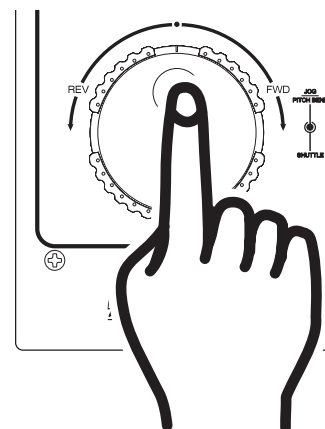

Figure 9
This feature allows you to scroll through a track to set a cue, starting sample, or loop point. To use the scroll function you must first be in Pause Mode or Cue Mode. Once you are in Pause or Cue mode, use your finger tip to turn the *JOG WHEEL (19)* to scroll through the track (figure 9). Turning the wheel in a clockwise direction will advance the frame search and turning the wheel in a counter-clockwise direction rewinds the frame search. When you use the *JOG WHEEL (19)* the monitor (headphone level) function allows you to hear what you are scrolling through. Once you reach your desired starting point you can set a cue (starting) point by pressing the *PLAY/PAUSE BUTTON (29)* as in figure 9. Pressing the *CUE BUTTON (27)* will return the disc to the cue point just set.